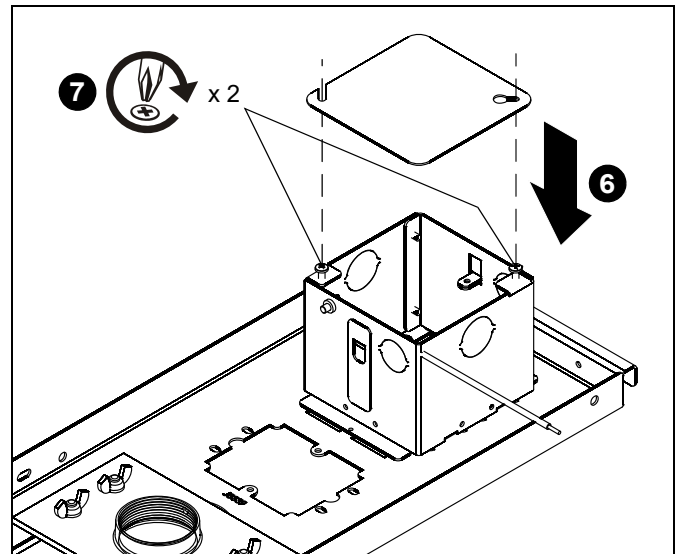

Figure 4
6. Replace the electrical box cover. (See Figure 4)